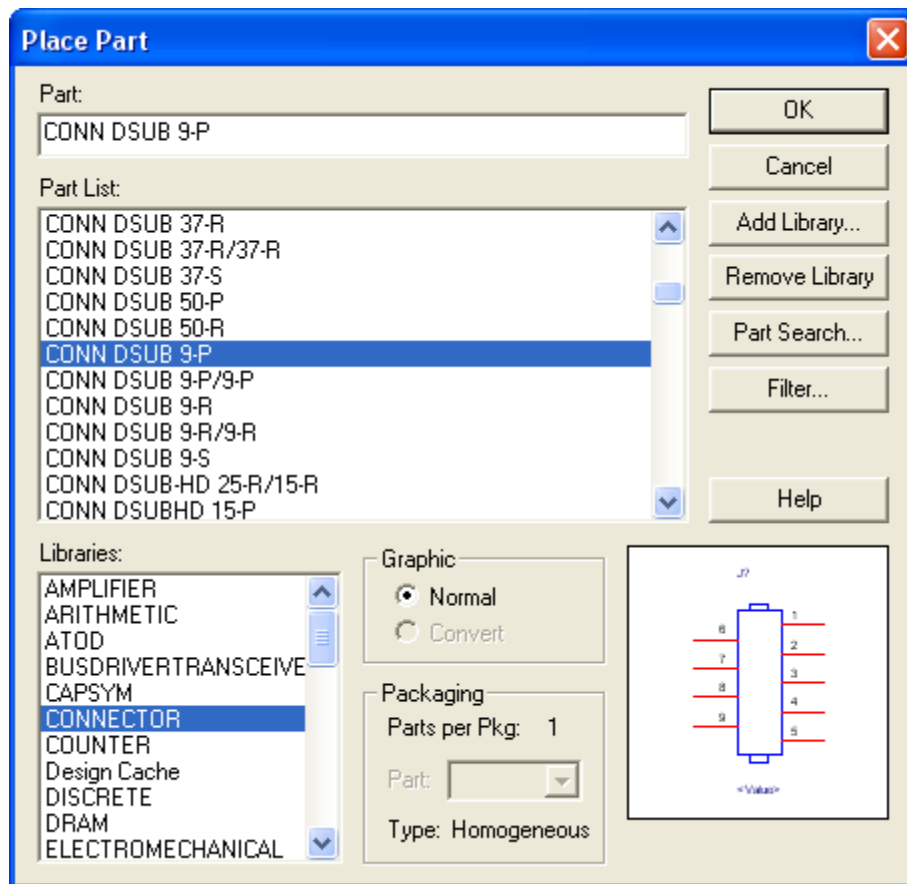

Figure 2.1: Place Part Window – DSUB-9 serial connector is displayed
10. We Select → **CONN DSUB 9-P*** from the Part List. (See Figure 2.1)